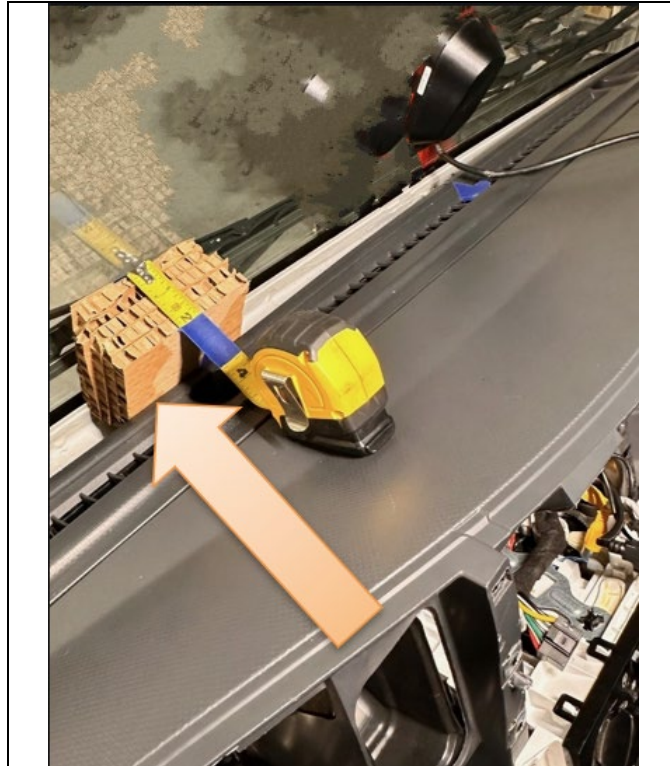

Figure 67
67. Pull the IP away from the windshield to create a 2" gap between the IP and the windshield as shown in Figure 67. Place a piece of wood, cardboard or rubber block (e.g. rubber mallet head) directly inline from the driver's right HVAC vent to maintain this gap.